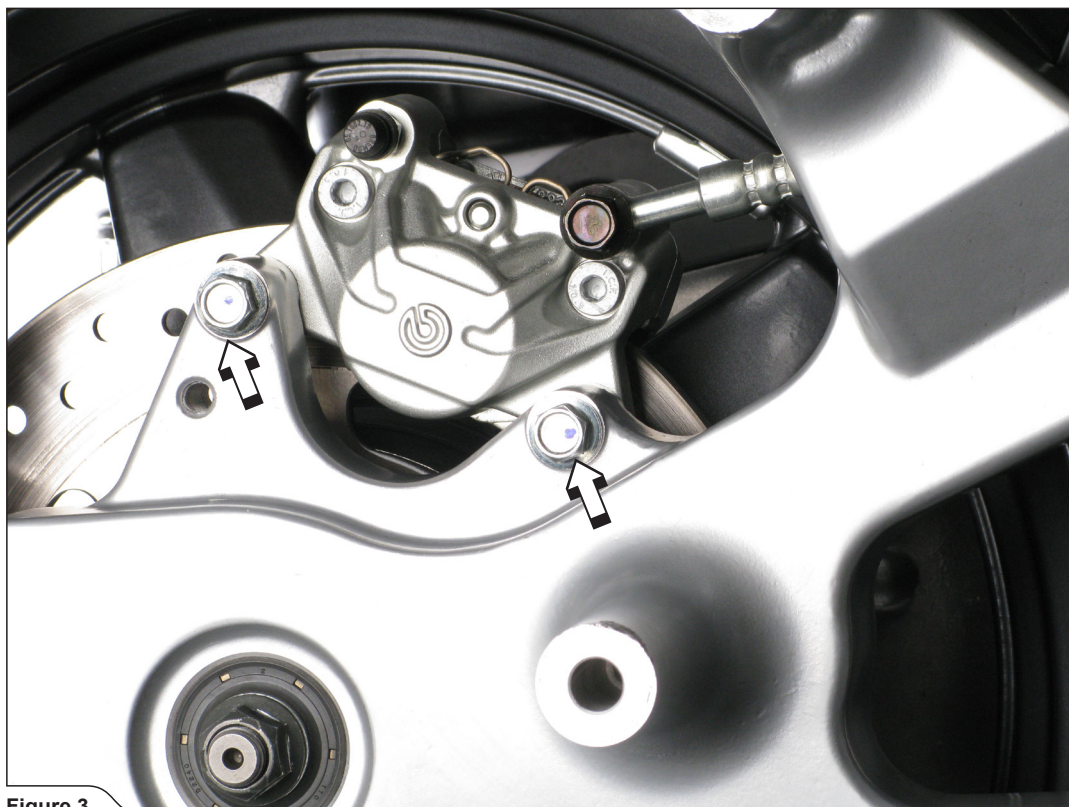

Figure 3
4. For X-MAX 125 / X-CITY 125 only: unscrew the marked rear brake caliper bolts (Figure 3).